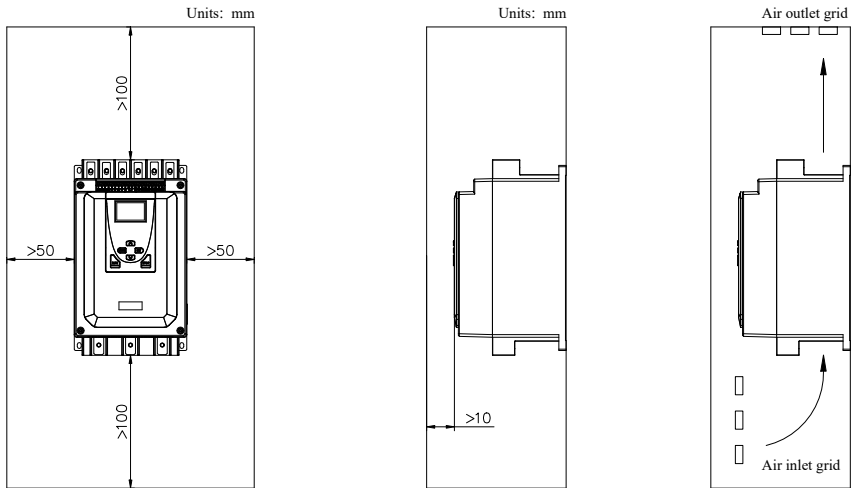

Figure 3.1 Diagram of Installation
- (1) The soft starter should be installed vertically, do not install it upside down, obliquely or horizontally; it should be installed on a firm structure with screws.
- (2) The soft starter will generate heat when it is running. In order to ensure the circulation of air, a certain space should be left as shown in Figure 3-1.
- (3) The heat generated by the soft starter dissipates upwards, so the soft starter should not be installed under heat-resistant equipment.